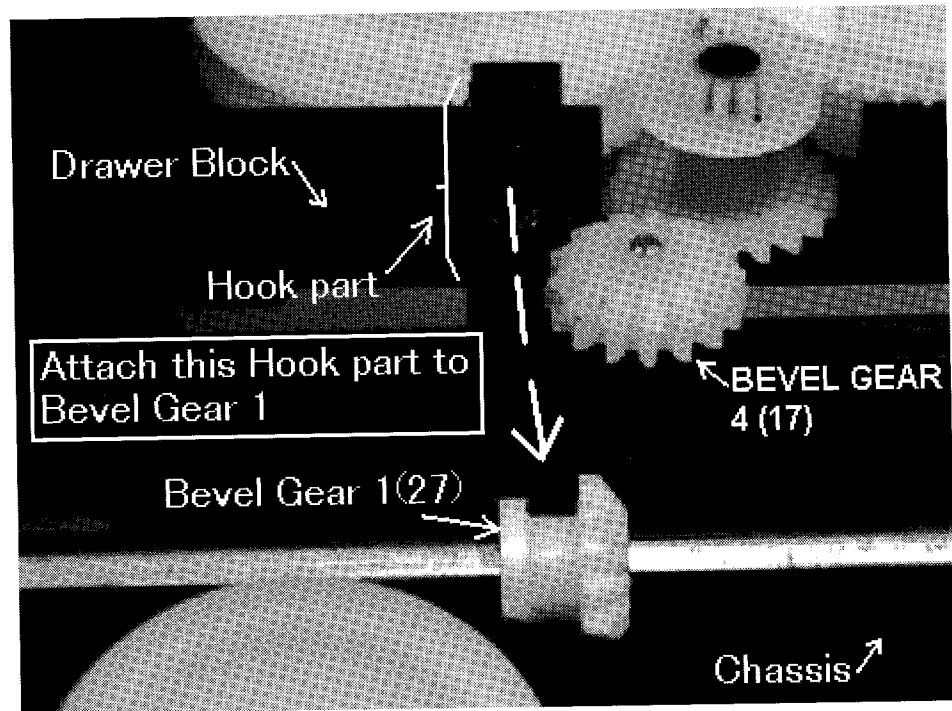

Fig.17
- 8) Move BEVEL GEAR 1(27) to the center of the SHAFT(24).
- 9) First attach the right side hook part of DRAWER block to CHSSIS block and BEVEL GEAR(27) (See Fig. 17). Then move DRAWER block inside as holding its left side up. Fit its left side project into the hole of CHASSIS end.